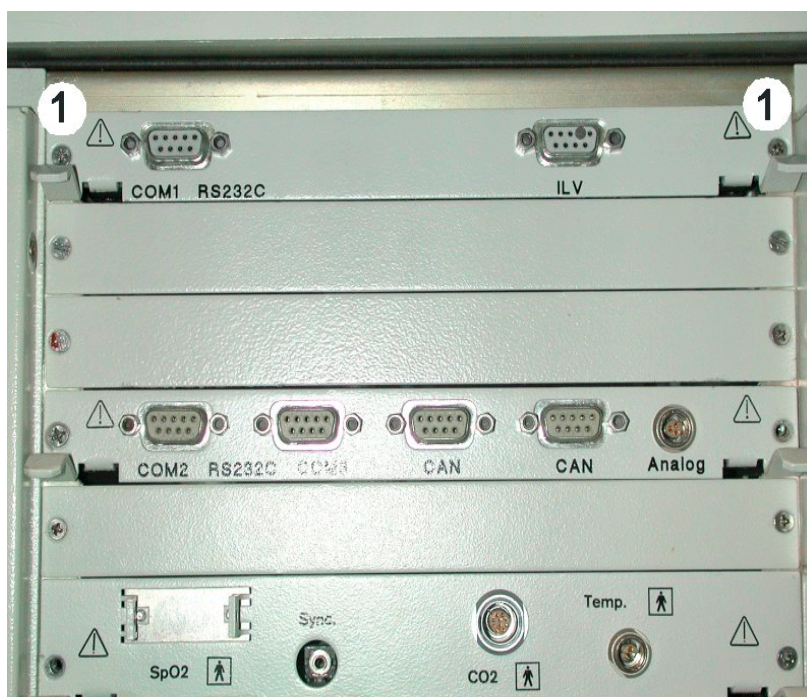

Figure 8 Rear view of the machine
4. Remove the screws (Figure 8/1) (Note: The CPU 68332 PCB might also be in another slot than that shown here).